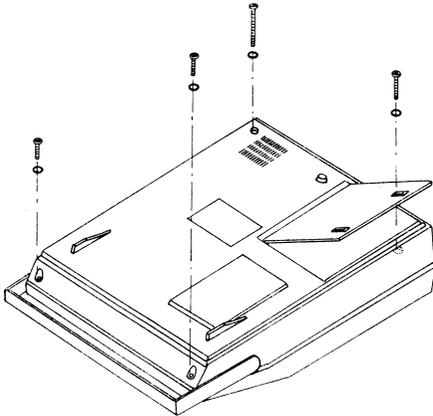

Fig 1
2. Remove the four phillips-head screw holding the bottom lid (Fig. 1)